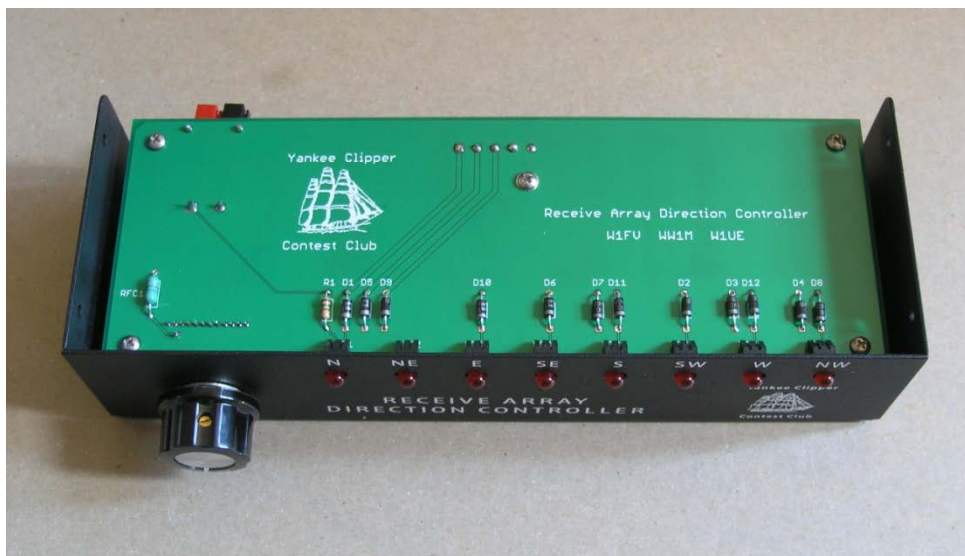

Figure 31. PCB mounted inside enclosure
16. Remove the nut and lock washer from the shaft of the rotary switch and mount the PCB on top of the aluminum standoffs as shown below in Figure 31. The shaft of the rotary switch and the eight direction LED's should protrude through the holes in the front panel of the enclosure. The holes at the four corners and rear middle of the PCB should line up with the threads in the aluminum standoffs. Install a .25 inch zinc plated screw through each hole to secure the PCB to the standoffs. Install the lock washer and nut on the threaded part of the rotary switch shaft on the outside of the enclosure front panel. Install the knob on the shaft.